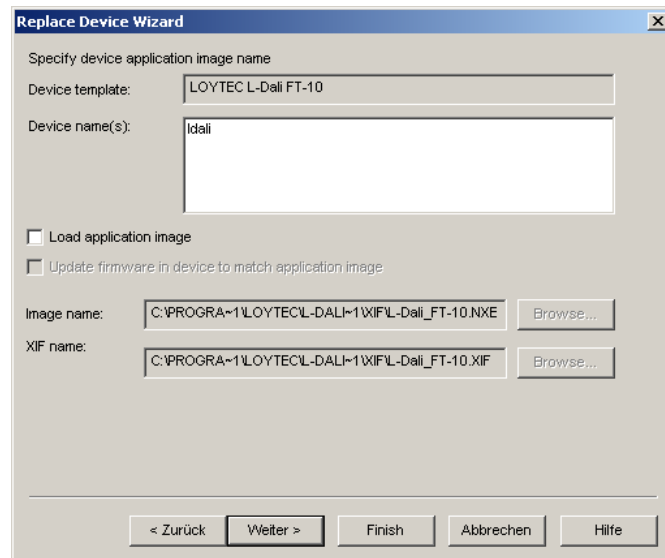

Figure 92: Click Next without loading an application image.
4. In the following window shown in Figure 92 click **Next**.